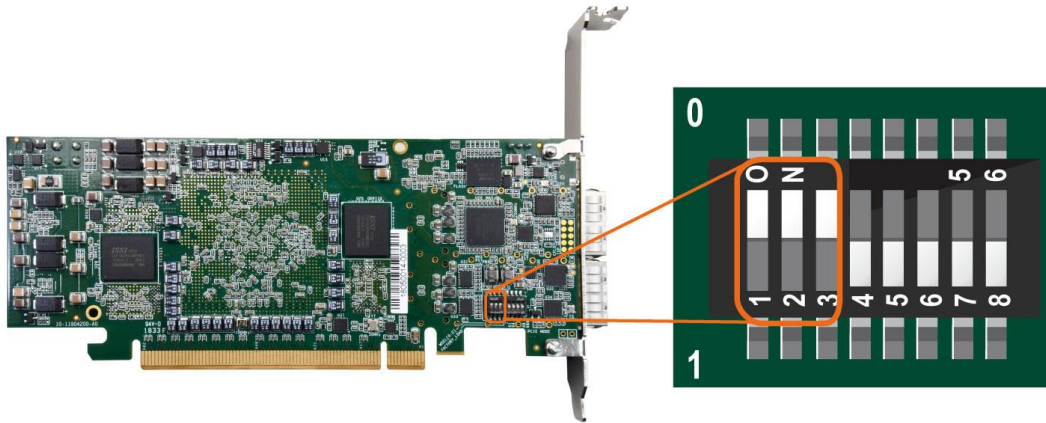

Figure 3-1 MSEL[2:0]=000
2. Set the FPGA configuration mode to FPPx16 mode by setting S1 MSEL[2:0] as **000** as shown in **Figure 3-1**.